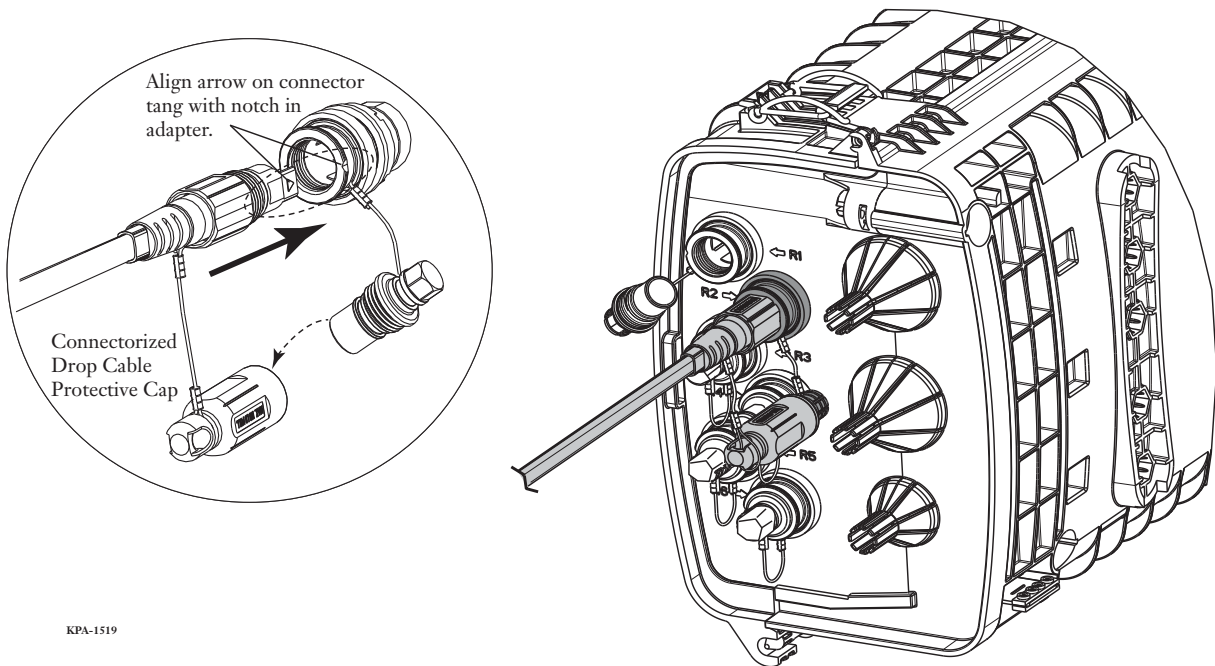

Figure 25 — Install Drop Cable
- Step 3:** Align the arrow on the tang of the drop cable connector with the notch in the OptiFit adapter. Insert the connector into the OptiFit adapter and screw the fitting into the adapter (Figure 25).